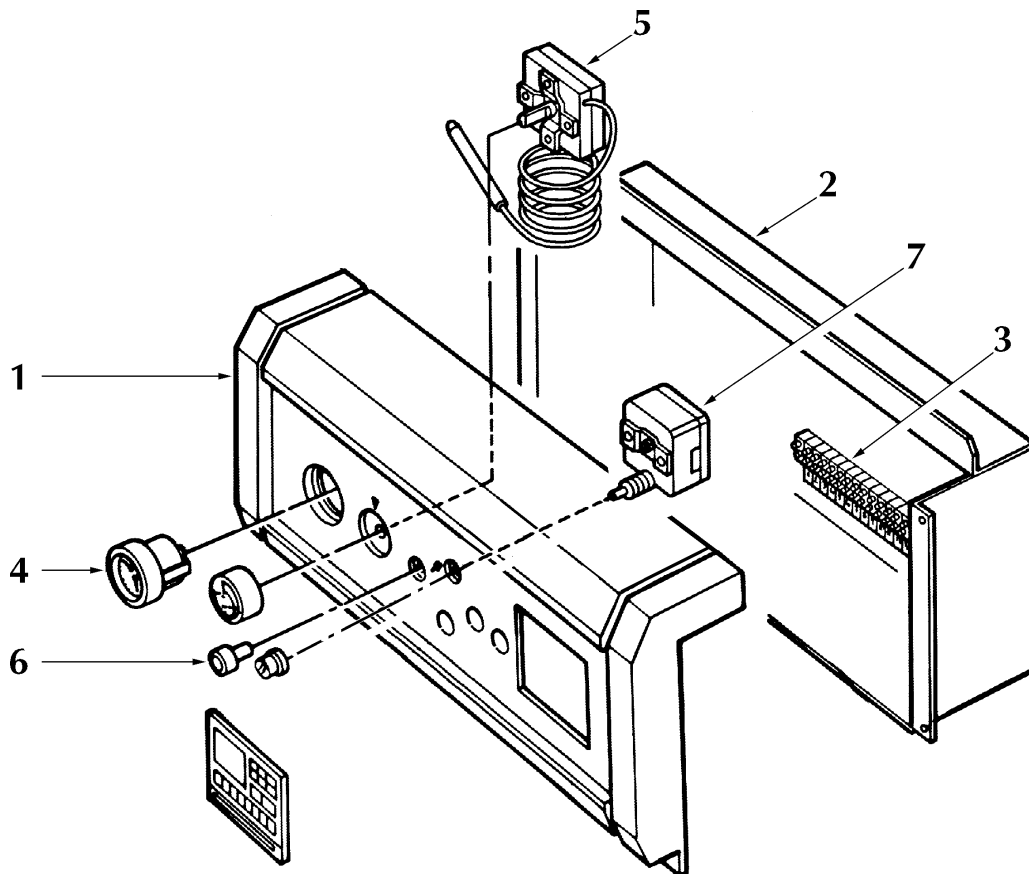

Fig. 6
4.03 Exploded view of the control panel (fig. 6)